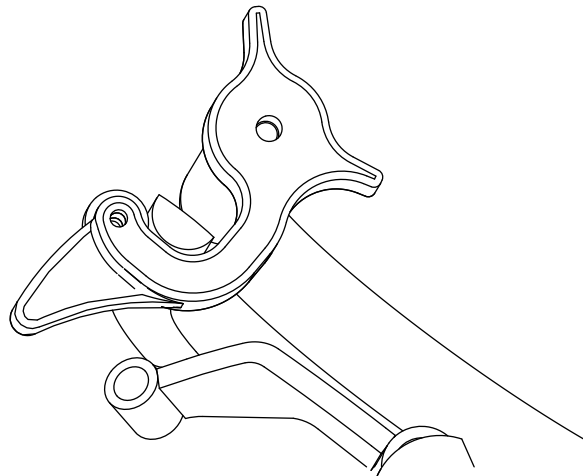

Figure 20
1. With rear of machine still on jack stands and engine running at full throttle, disengage the park brake and move the speed control lever to the midway position. Move the respective drive lever upward until it reaches the neutral position and engage neutral lock latches (Figure 20). If the tire rotates in either direction, the length of the drive lever link will need to be adjusted.